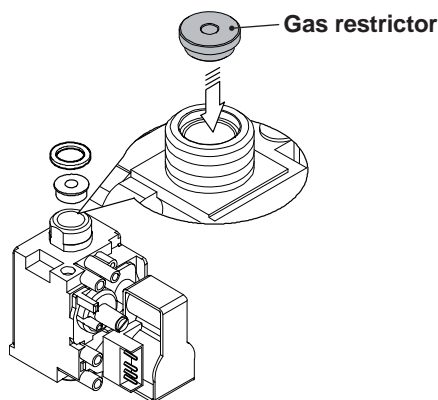

Fig. 8.2
- Carry out gas conversion by correctly replacing the gas restrictor (Fig. 8.2), referring to the "Technical Data" section page